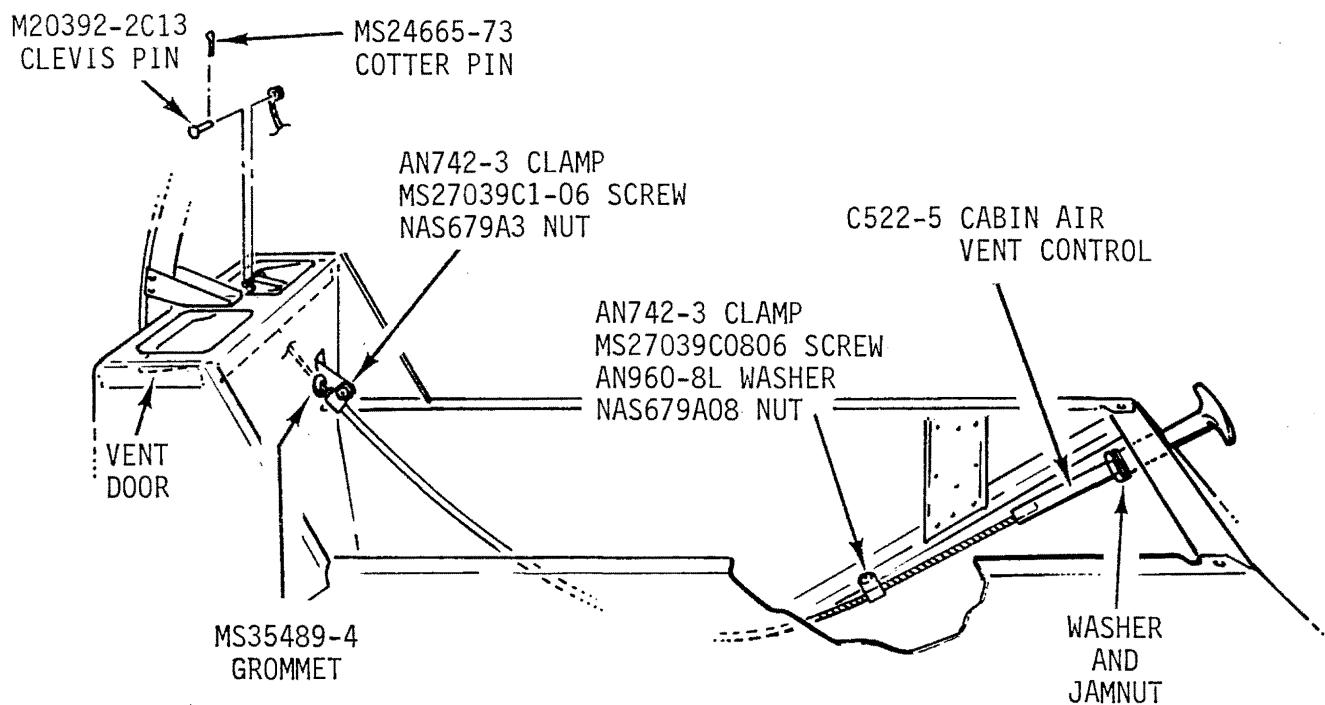

FIGURE 11-2 CABIN AIR VENT INSTALLATION
11.200 VENTILATION**11.210 Cabin Air Vent Cable Removal (See Figure 11-2)**
11.220 Cabin Air Vent Cable Installation (See Figure 11-2)